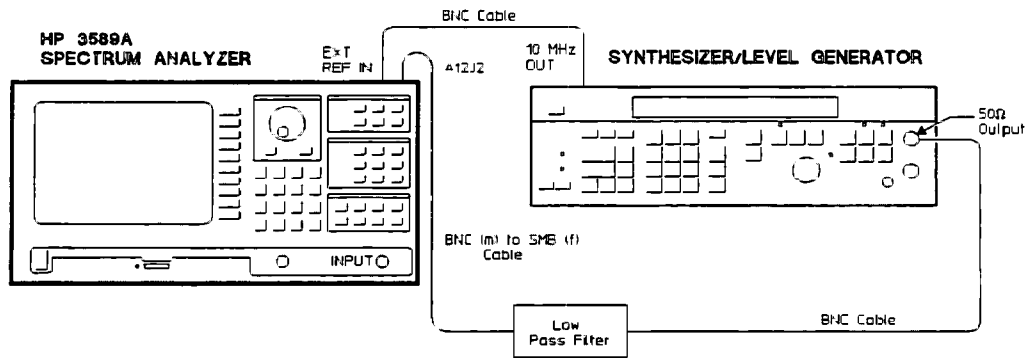

Figure 4-20. Troubleshooting Input Harmonic Distortion
2. Connect the test equipment as shown in figure 4-20.